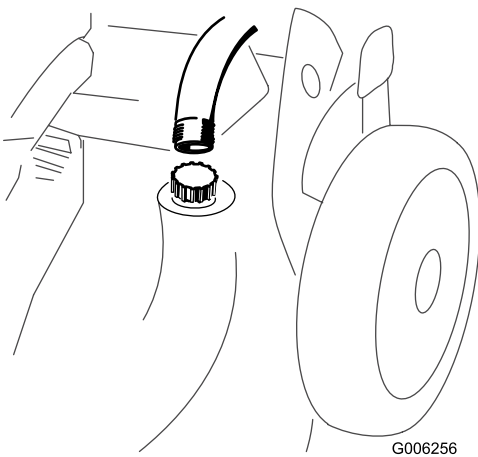

Figure 36
3. Attach a garden hose that is connected to a water supply to the washout port on the mower housing (Figure 36).